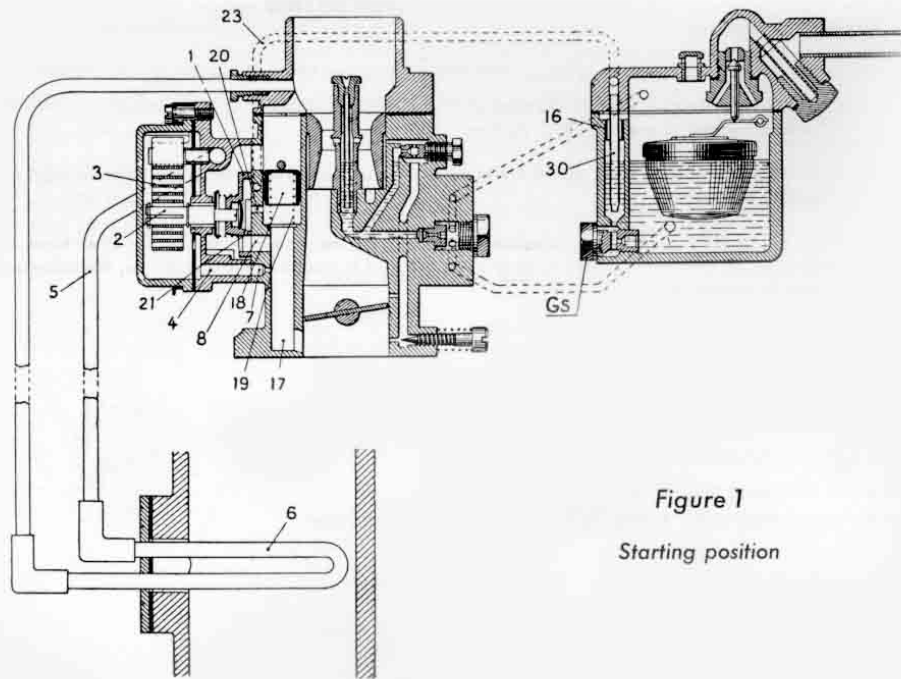

Figure 1
In cold weather and when the engine is cold, the piston occupies the position (figure 1) and the disc valve the figure 2 position, that is to say, the disc valve ports (25) are in direct communication with the equivalent ports on the face on which the disc valve rests.
At the time of starting, when the engine turns, driven by the starter motor, the depression in the inlet manifold is relatively weak. The piston (18) keeps high position (figure 1) and the fuel passes through the channels (23) and (20), when the air is fed through the orifice (8); the mixture is then very rich. On the other hand, when the engine is running, the depression becomes high, the piston (18) is withdrawn (figure 2) and the fuel only comes through the orifice (21) which has the effect of weakening the mixture.